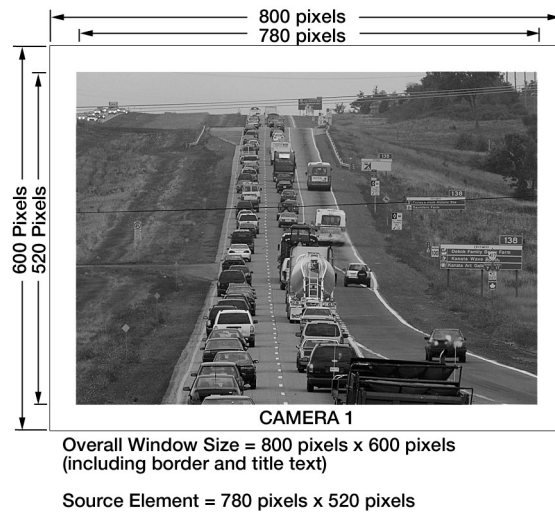

Figure 34. Example of Window Sizing
- To set the actual source element to a specific size (rather than the overall window size), click the **Size Arrows** to make the necessary adjustments. Width and height values in the Source Window Size panel show the size of the source, allowing for the width of any border or title text (see figure 34).